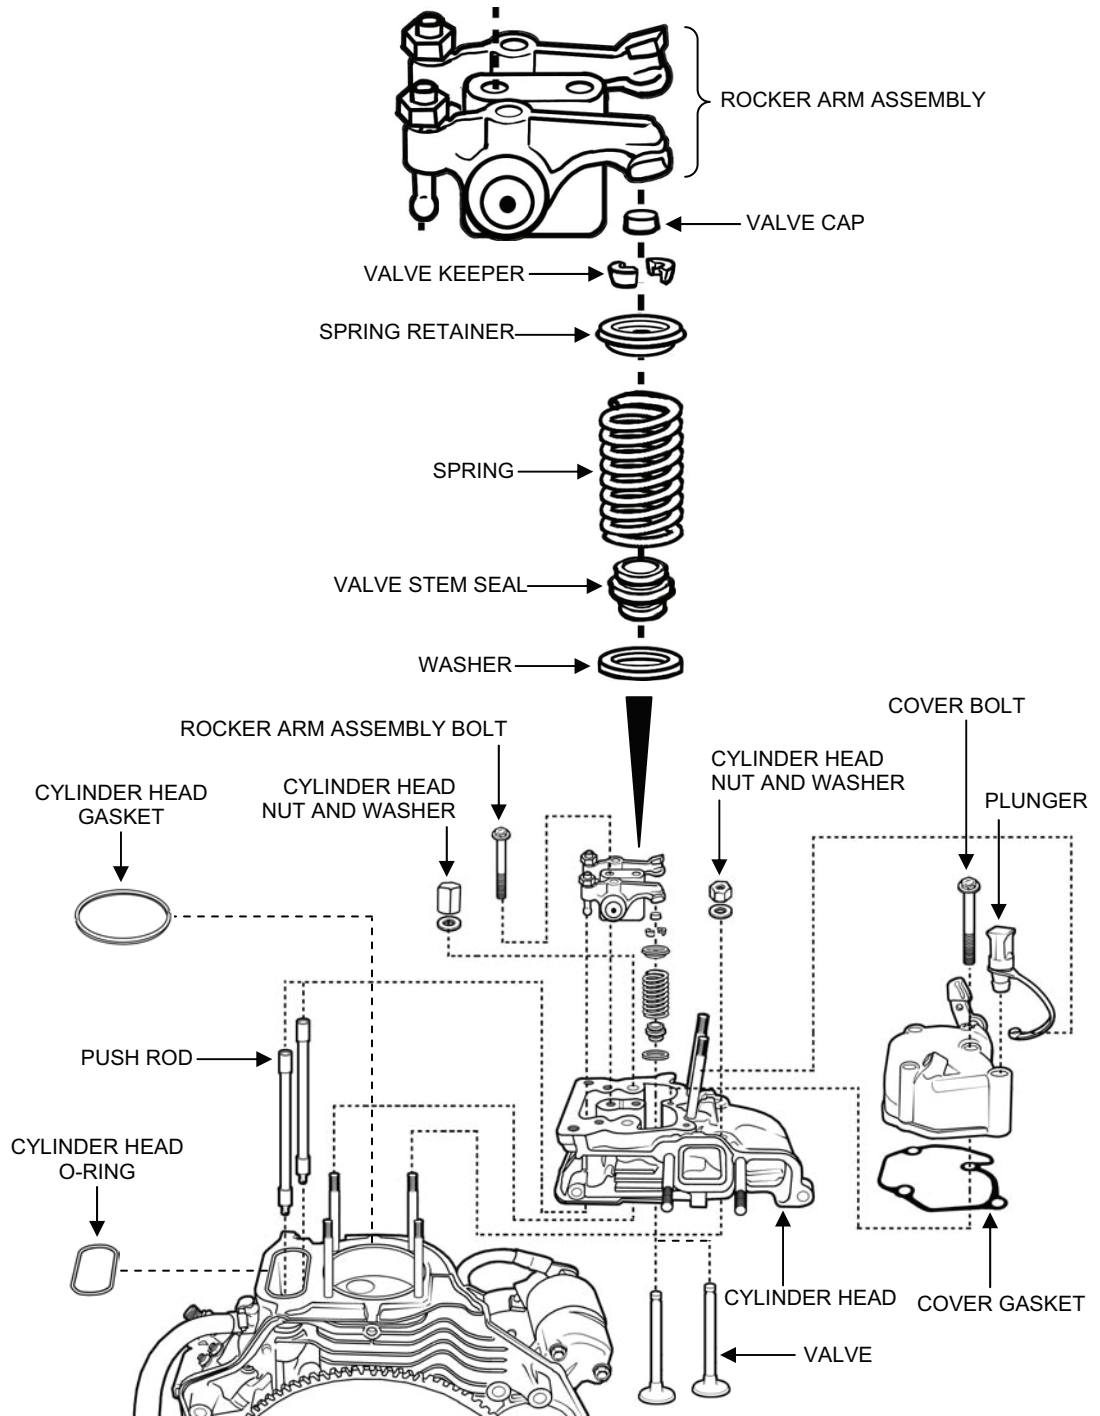

Figure 1. Cylinder Head Removal.
Cylinder Head Removal (see Figure 1):
2. Remove the following components: valve keeper, spring retainer, spring, valve stem seal, washer, and intake valve (see Figure 1). Discard the valve stem seal.